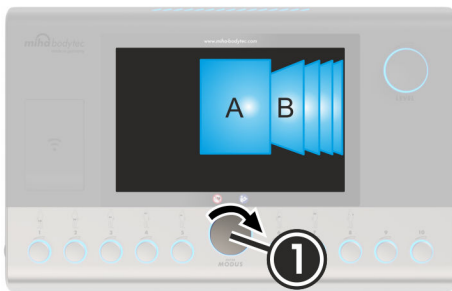

Fig. 20: Selecting menu tabs
1. ➡ Turn the multi-function button (Fig. 20/1) clockwise.
2. ➡ Press the multi-function button (Fig. 20/1).